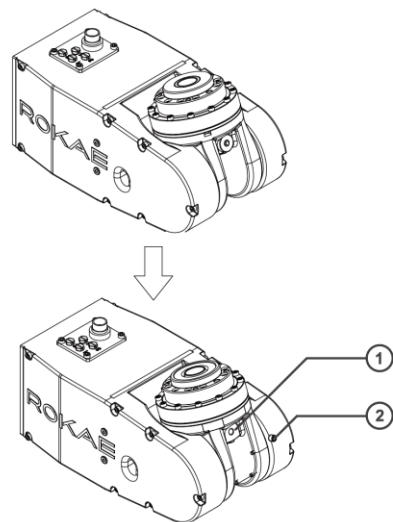

Fig. 36 Grease refill
- 1) Rotate the wrist from zero to 110 degrees upward (as shown in Fig. 36). Turn off the power;